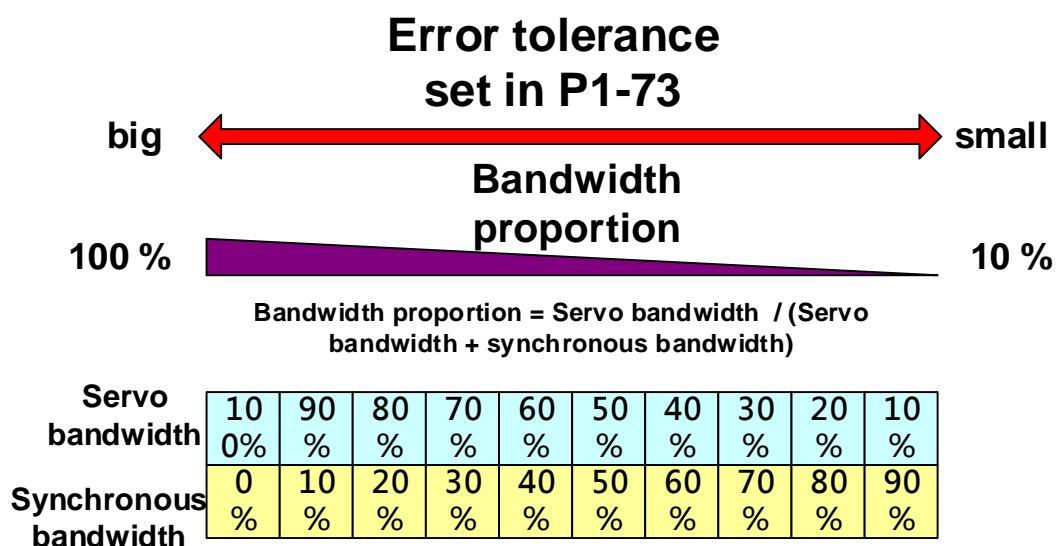

Figure 3.5.17 Setting Up Bandwidth Proportion
4. Basically, the bandwidth settings of both servo drive and gantry synchronous control has to be identical. The bandwidth of the servo drive can be calculated and set in Auto Gain Tuning via ASDA Soft; Gantry bandwidth can be set via P2-57 (The Bandwidth of Synchronous Control). See Figure 3.5.17.